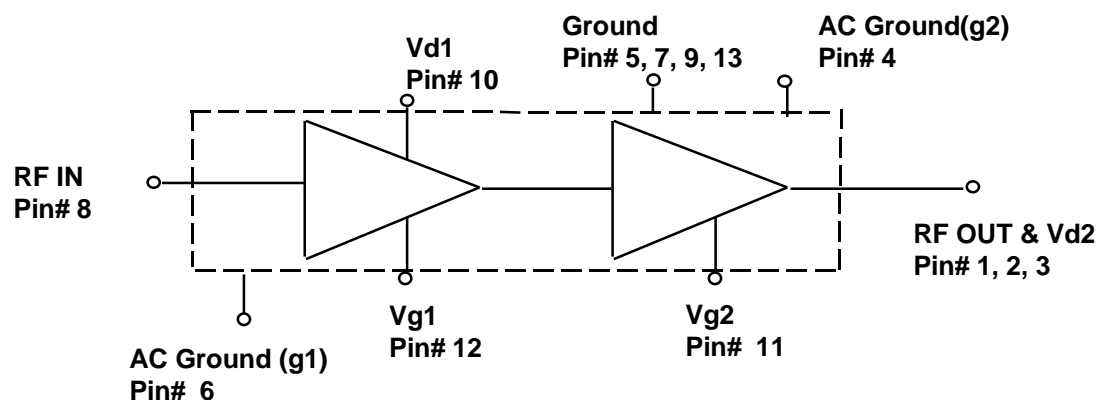
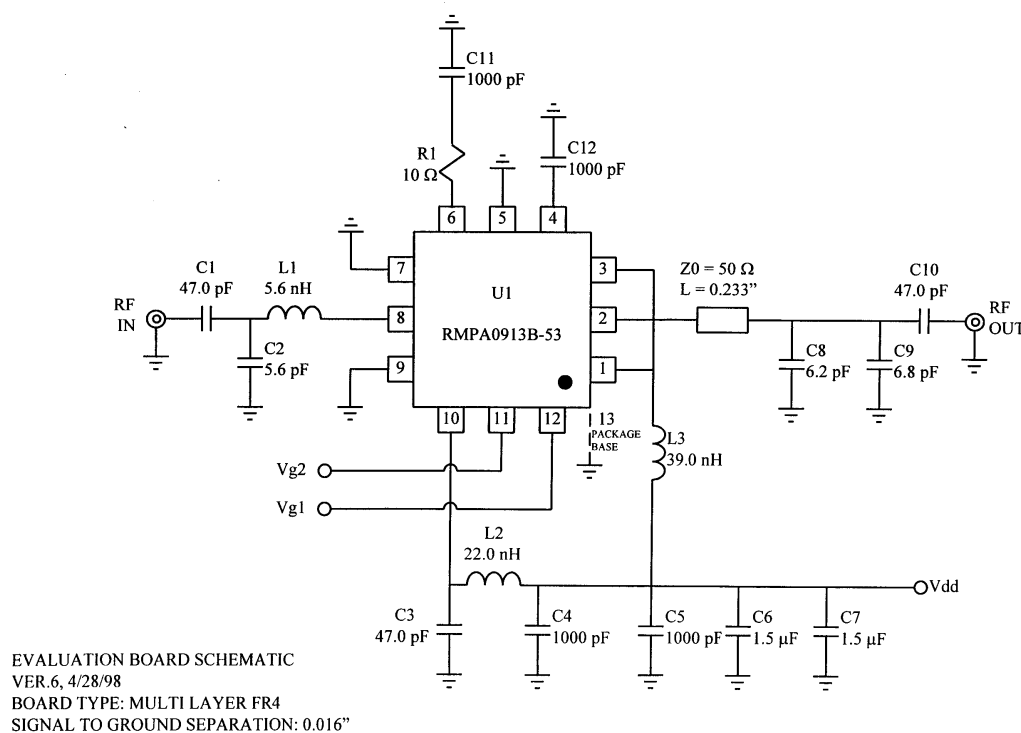
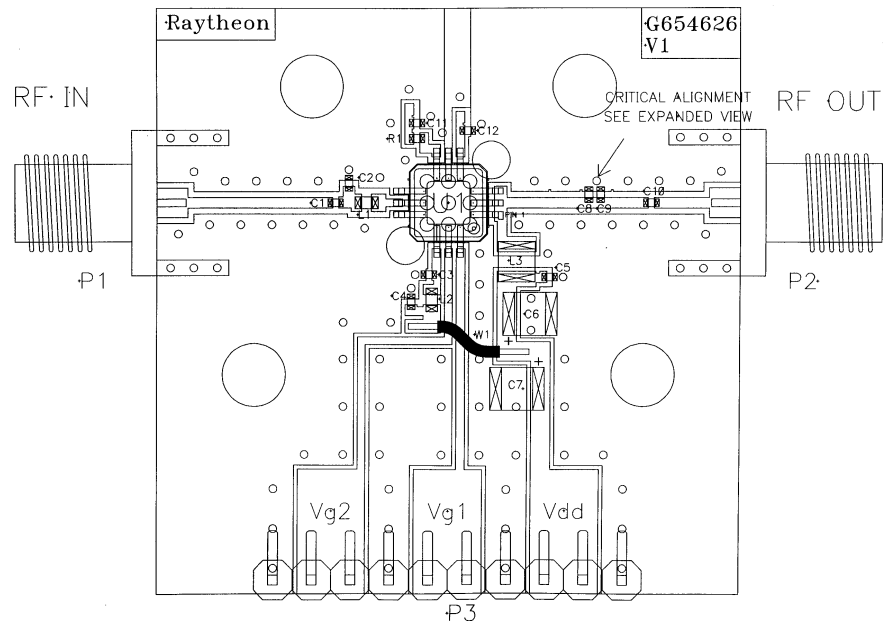

Figure 1: Functional Block Diagram of Packaged Product (RMPA0913C-58)
Figure 3: Schematic for a Typical Test Evaluation Board
Figure 4: Layout and Assembly of Test Evaluation Board
The following describes a procedure for evaluating the Raytheon RMPA0913C-58, a monolithic high efficiency power amplifier, in a surface mount package, designed for use in the AMPS/CDMA dual mode portable phones. Figure 1 shows the package outline and pin designations. Figure 2 shows the functional block diagram of the packaged product. It should be noted that the amplifier requires external passive components for DC bias and RF input and output matching circuits. A recommended schematic is shown in figure 3. The gate biases for the two stages of the amplifier are set by simple on-chip circuits. Figure 4 shows a typical layout of an evaluation board (RMPA0913C-58-TB), corresponding to the schematic circuit of figure 3. The following should be noted:
- (1) Pin designations and their functions are as shown in figure 1 and Table 1.
- (2) V_{g1} , V_{g2} are denoted as the Gate Voltages (negative) applied at the pins of the package
- (3) V_{gg1} , V_{gg2} are denoted as the negative supply voltages at the evaluation board terminals
- (4) V_{d1} , V_{d2} are denoted as the Drain Voltages (positive) applied at the pins of the package
- (5) V_{dd1} , V_{dd2} are denoted as the positive supply voltages at the evaluation board terminals